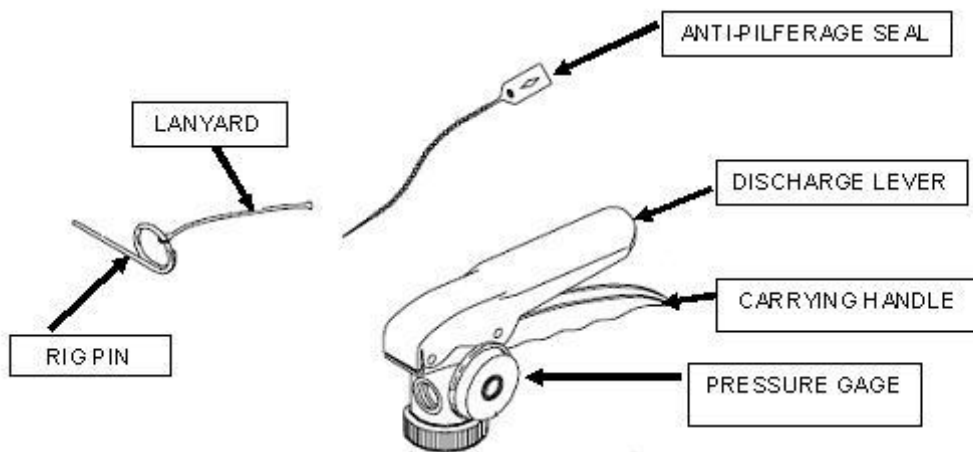

Figure 551-88L-2049_09
(1) Check the AFFF fire extinguisher for missing or broken antipilferage seal, (refer to Figure 551-88L-2049_09).